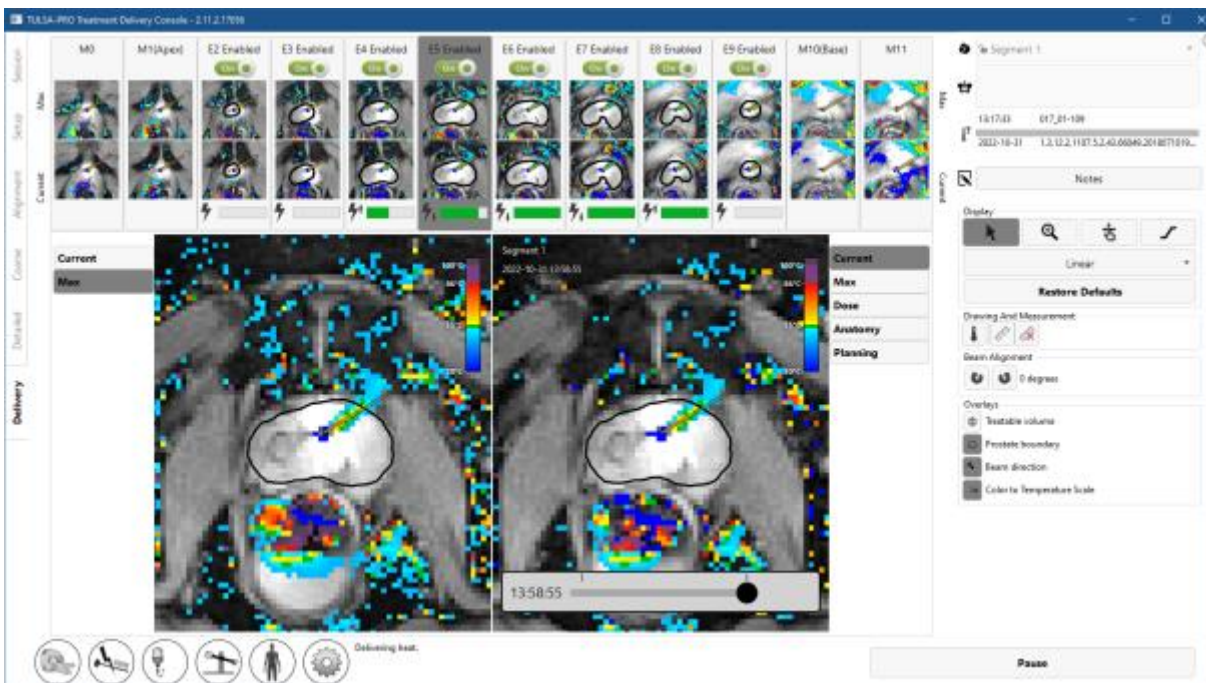
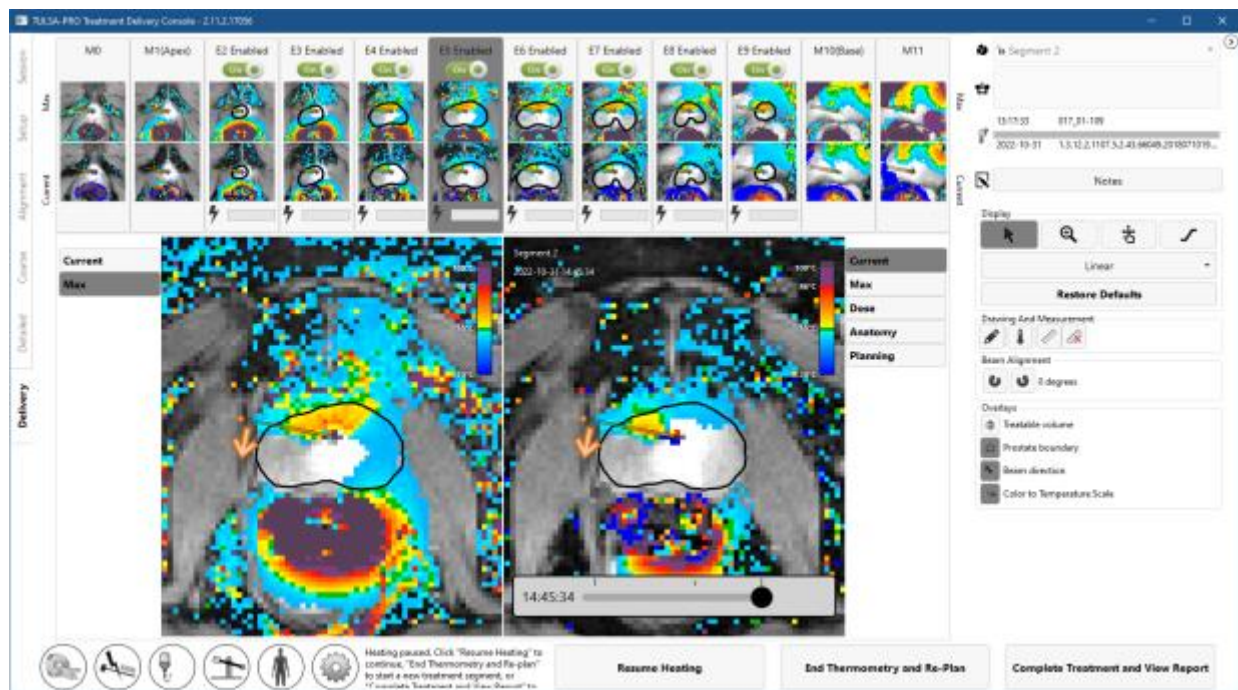

Figure 44: Ultrasound heating has begun
Figure 49: Delivery workspace with treatment and heating paused
Radiologist: After receiving 25 thermometry dynamics, heating begins (Figure 44). Throughout the ablation, actively monitor real-time treatment images on all slices, ensuring that:
**Radiologist:** At any time during Delivery, click **Pause** in the bottom-right corner of the screen (see *Figure 44*). While in the paused state, all heating from the UA is suspended while thermometry acquisition continues (*Figure 49*).